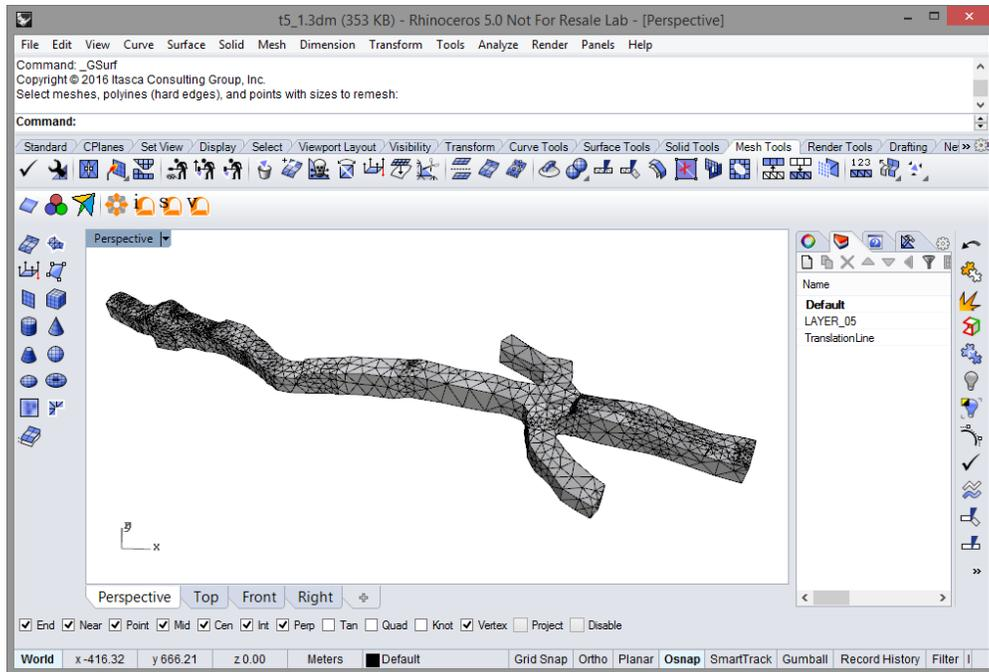

Figure 107: Triangle mesh after remeshing with GSurf.
8. At this point we could continue to use *Rhino's* built-in mesh editing tools summarized below in Table 1 to remove degenerate, duplicate, non-manifold and isolated triangles, or we could generate an almost clean mesh with *Griddle*, using the current mesh as input. Select the mesh and type **_GSurf**. Select **Mode:Tri, MinEdgeLength 0.5, MaxEdgeLength 5, MaxGradation 1** and press Enter. We would like our resulting mesh to have edges no larger than the drift height and width (approximately 5 m) and we would also like to preserve some of the smaller scale features with the MinEdgeLength of 0.5 m (you should experiment with these and other **_GSurf** parameters). Your remeshed mesh should look similar to that shown in Figure 107.